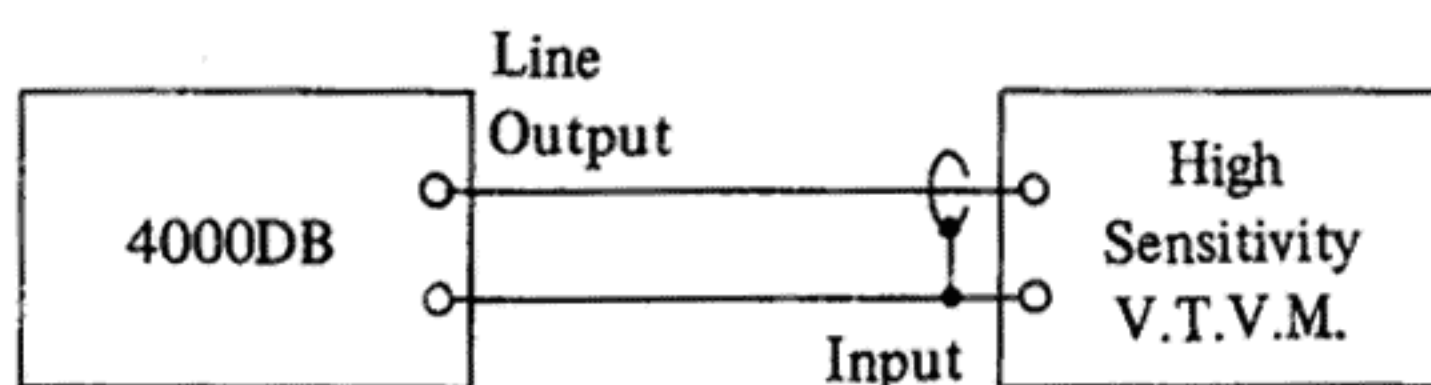

Fig. 26
- Connect a High Sensitivity V.T.V.M. as shown in Fig. 26.